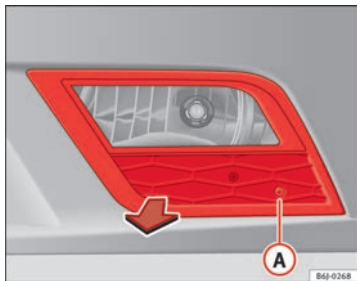

Fig. 157 Fog lights
- Remove the bolt ⇒ fig. 157 **A** from the fog light grill with a screwdriver.